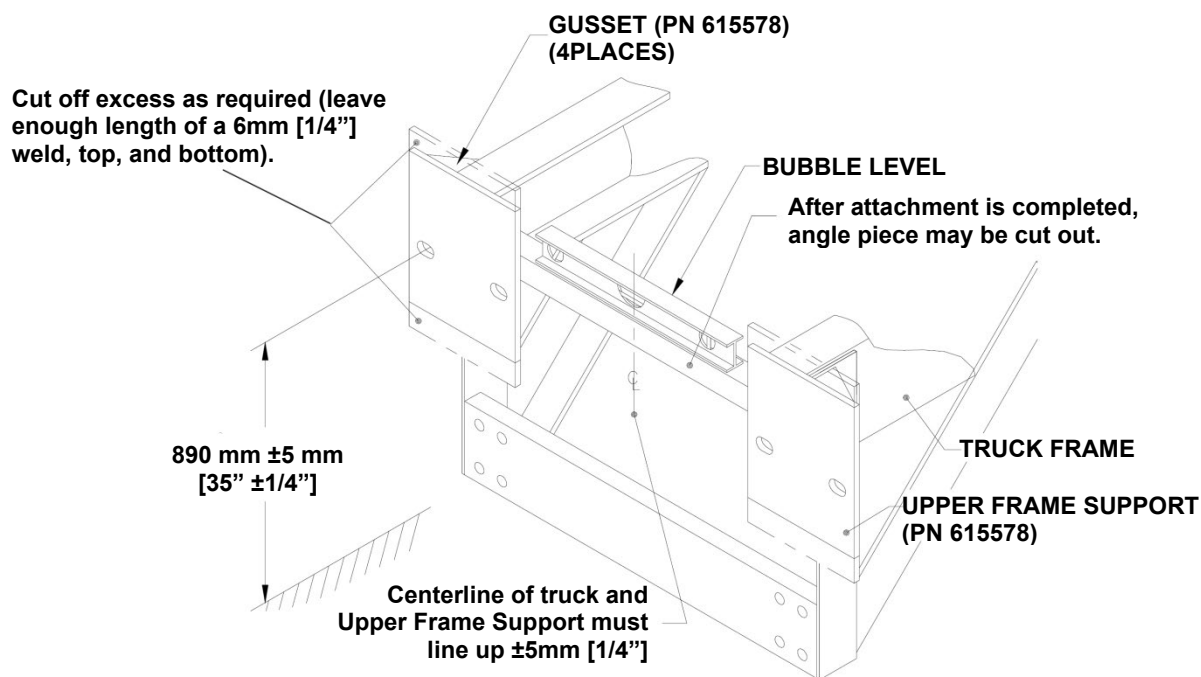

Figure 2
- B. Temporarily position "Upper Frame Support" (PN 615578) against the rear of the truck frame (refer to Figure 2) and check for interference problems. Interference problems with tail lights, dump bodies (in up position), etc. should be corrected before proceeding. (The cross member on the Upper Frame Support may be removed after attachment to underside.)
Note: Minimum weld length to each frame (excluding gusset welds) is 380 mm [15"] (see Part A in Step #4). Weld the four Gussets (PN 610073) as shown making sure there is adequate bolt clearance near the holes. Paint the exposed metal parts using the primer and spray paints provided (see Figure 2 and 3).
Note: The cross member of the Upper Frame Support (PN 615578) may require removal at this point (see Figure 2 on page 14). Torque 1" nuts until lock washers are fully compressed.